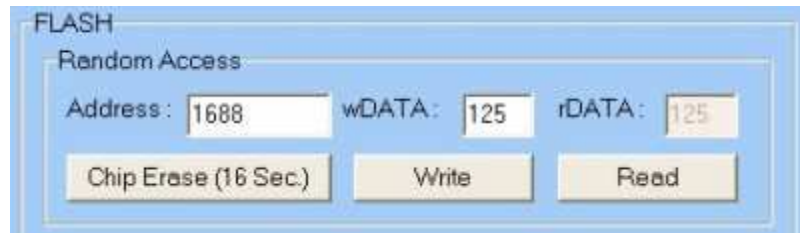

Figure 11.5. Random Access to the Flash Memory
3. Please refer to Figure 11.5. Key in a random address (0x1688 in the example) and value in wDATA field (0x125 in the example). Click on Write will write 0x125 to address 0x1688.